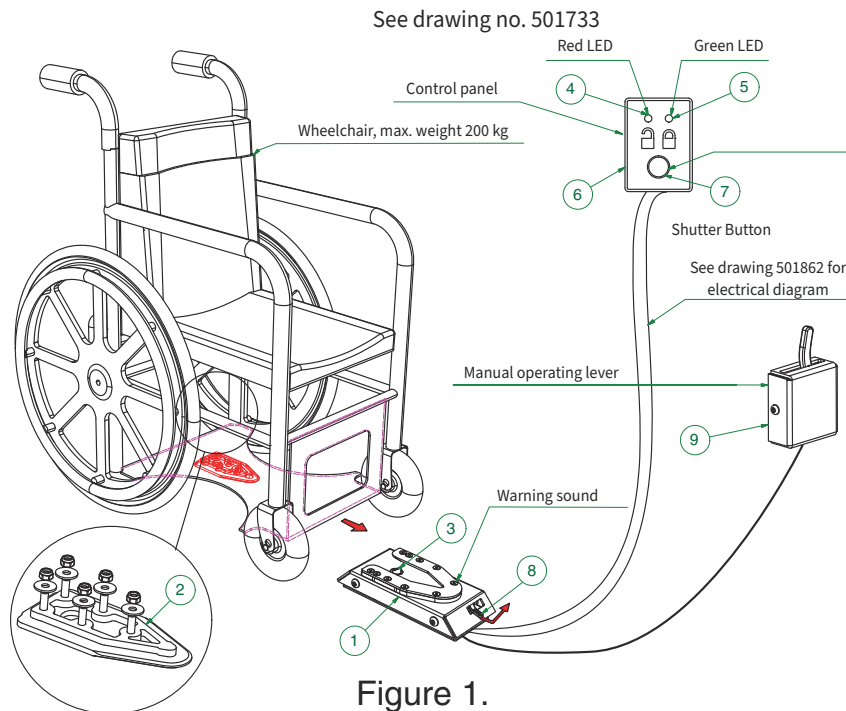

Figure 1.
- 1 Perform a final check by connection the wheelchair to the docking station. Check that it is securely locked and make sure that all release methods work as intended. (Figure 1)
- Belt restraints must not be held away from the body by wheelchair components such as armrests or wheels. (Figure 1).